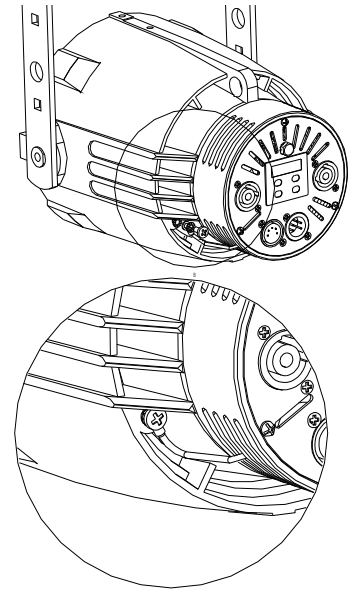

Fig.6
12. The lock washer and the M4 screw used for holding the eyelet-cord to ground the fixture as expressed in point 3, must be now used to secure the new provided eyelet-cord to ground/earth the fixture as shown in fig.6